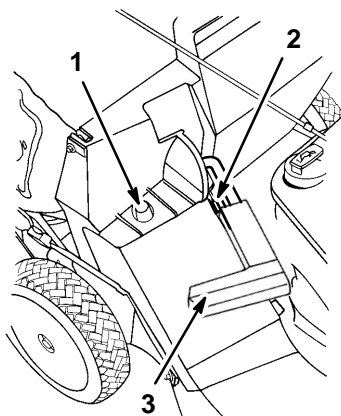

Figure 13
2. Ensure discharge door handle is fully forward and pin is engaged in catch (Fig. 13).
3. **INSTALLING BAG**—Slide hole in bag frame onto retaining post on discharge tunnel (Fig. 13). Set rear of bag frame onto lower handle.
catch (Fig. 13). Grasp handles at front and rear of bag and lift bag off mower. Gradually tip bag forward to empty clippings.